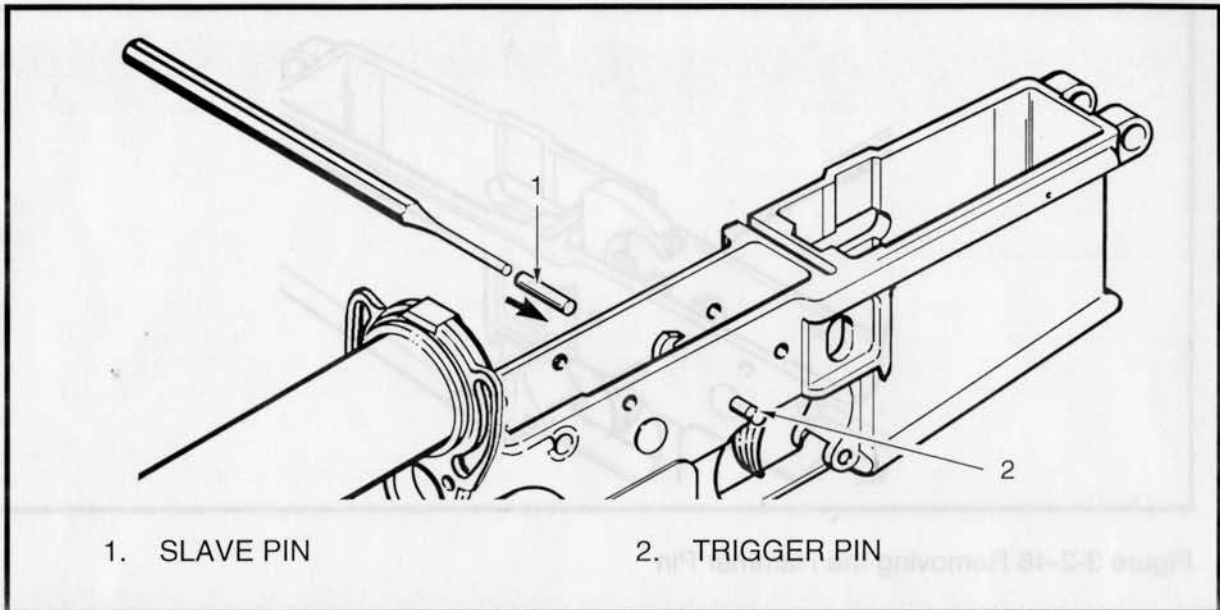

Figure 3-2-47 Removing the Trigger Assembly
- (1) See Figure 3-2-47. Insert a slave pin (1), from the left, to displace the trigger pin (2);